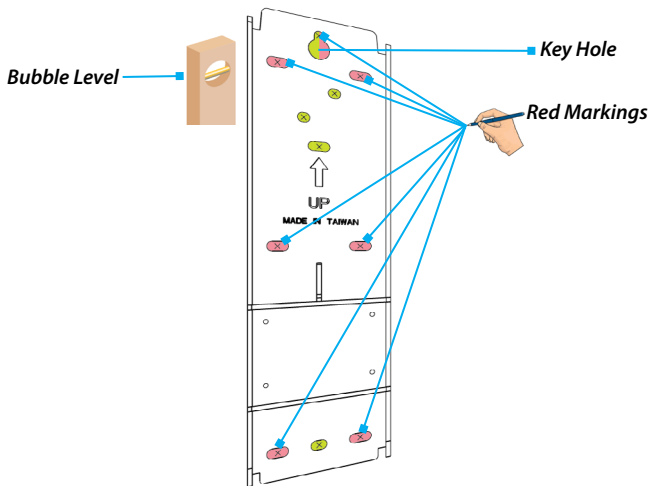

Figure 4
3. Use the **Pencil** to perforate the **Red Markings** on the **Mounting Template** and mark the locations for drilling. The **X** is the center of the hole. (Figure 4)